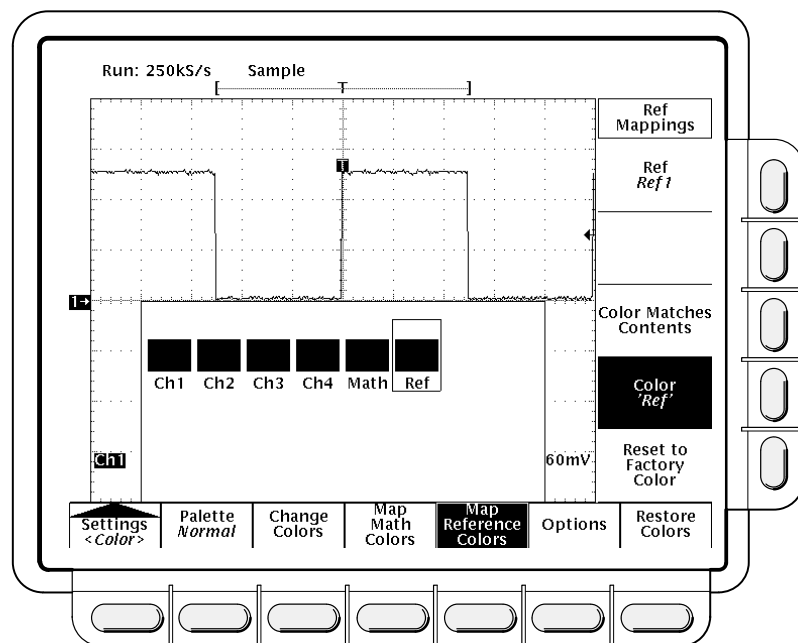

Figure 3-6: Display Menu — Map Reference Colors
1. Press **Map Reference** in the main menu (see Figure 3-6).